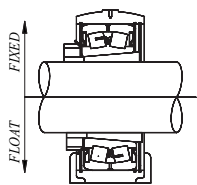

Figure 2
3. Install the unit on the shaft by sliding the bearing onto the adapter sleeve. Adjust the entire assembly as needed until the final bearing location is achieved. For floating configuration, ensure the bearing is centered in the housing before performing final adjustments (as in Figure 2).